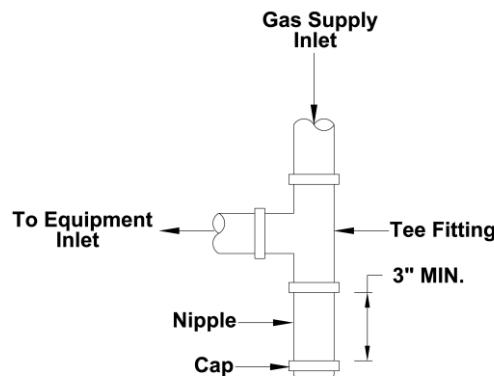

Figure 12: Typical Sediment Trap (required in all installations)
- ⚠ **NFPA Code and Hearthstone require the use of a dedicated sediment trap just upstream of the unit. Damage to the valve or other components, due to the lack of a sediment trap (figure 12), is not covered by warranty.**